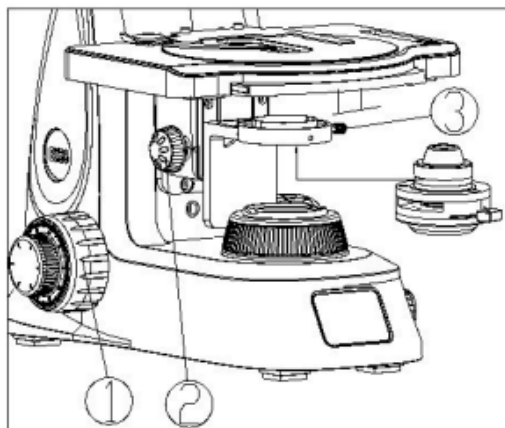

Figure 7
1. Rotate the coarse focusing knob ① in the direction shown in the figure to raise the stage to its highest position.
2. Use the condenser up-down knob ② to lower the condenser bracket to a suitable position.
3. Loosen the condenser lock-screw ③ completely.
5. Tighten the condenser lock-screw ③, and then raise the condenser using the up-down knob to its highest position. (See Fig. 7)